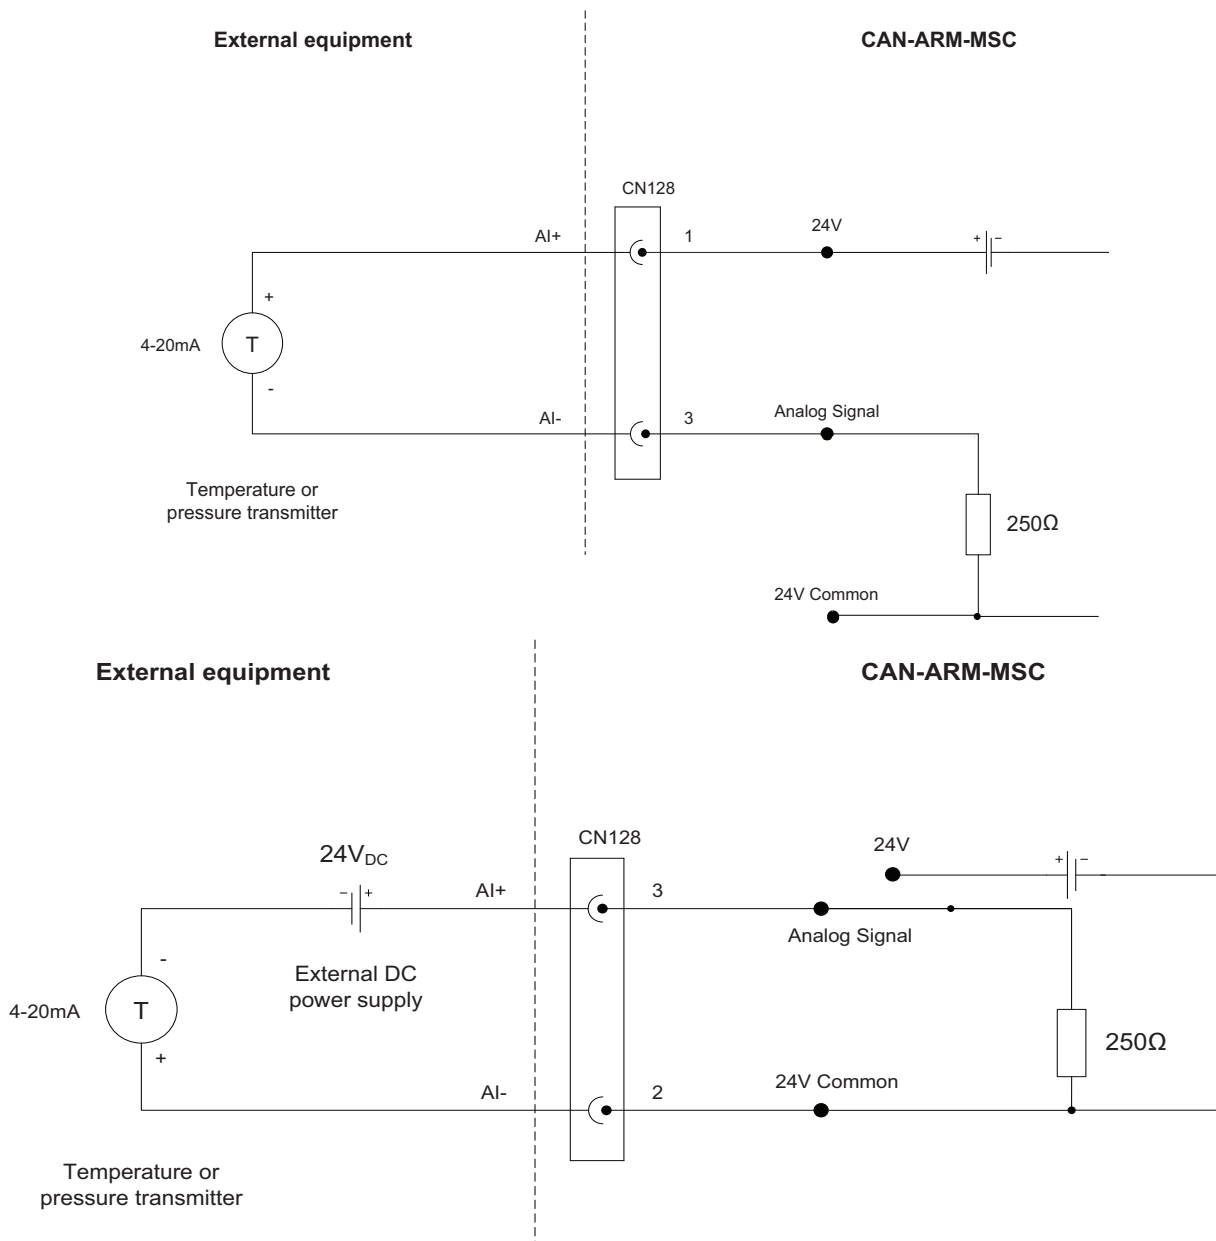

FIGURE 3-23
The Analog Input (AI) supports 2-wire 4-20 mA, and can be configured by a switch to operate in active mode or passive mode. See FIGURE 3-23.